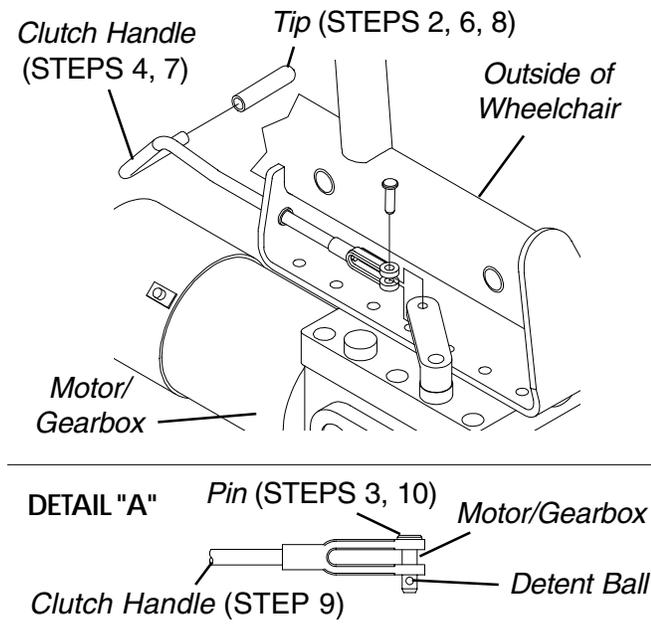

FIGURE 21 - REPLACING CLUTCH HANDLES - RANGER II FWD BASIC
8. Use Loctite 242 and tighten the motor to the wheelchair frame securely with the six (6) socket screws. Torque to 60-inch pounds.
12. Perform one (1) of the following:
**REPLACING CLUTCH HANDLES - R2BASIC AND R2JR (FIGURE 21)**
10. Insert the pin through the clutch handle and motor/gearbox as shown in DETAIL "A" in FIGURE 21.